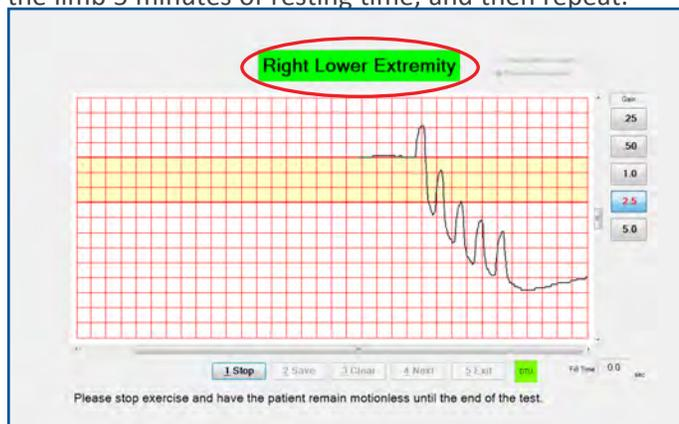

FIGURE 2.14 - Right Lower Extremity Test Screen - Green Segment Indicator and “Stop” Button
19. When a steady baseline appears and the segment indicator has turned yellow, have the patient perform five (5) forceful dorsiflexions.
20. If at that time the segment indicator has turned green, the patient should remain as still as possible (Figure 2.14). If not, reposition the probe or cuff, allow the limb 5 minutes of resting time, and then repeat.
21. Click “Stop” (“Start” button changes to “Stop”), or press 1 when the waveform reaches the left edge of the screen (Figure 2.14). Click “Save”, or press 2.
*Note: To record the venous refill time, click on the lowest point after the five (5) dorsiflexions, then the highest point of the refill line. The refill time will display in the bottom right corner.*